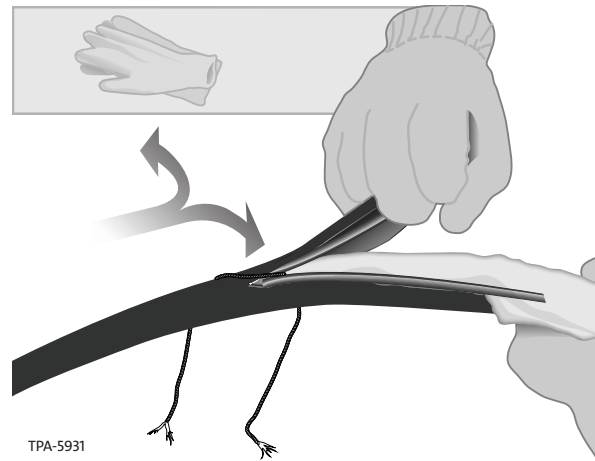

Figure 7
Step 3B: Pry open end of cable using hands or with sheath knife or pliers to assist (Figure 7). Locate ripcords below the water-blocking tape. Place the rip cords on each side of the cable.